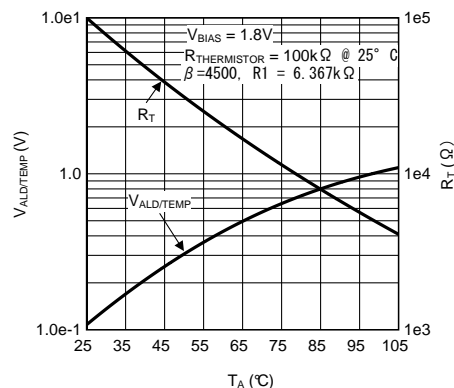

Figure 50. Thermistor Resistive Divider Response vs Temperature
- V_{BIAS} is shown in Figure 50
Setting the ALD/TEMP Sense High Register to $N = 50$ or hex $0x32$ places the upper trip point to approximately 800 mV . Voltages higher than 800 mV prevent the flash LED from turning on. Based on Figure 50, the Sense Low Register can be set to a lower code to give a second LED current threshold (70% flash). Voltages lower than the value stored in the Sense Low Register allow a full current flash.